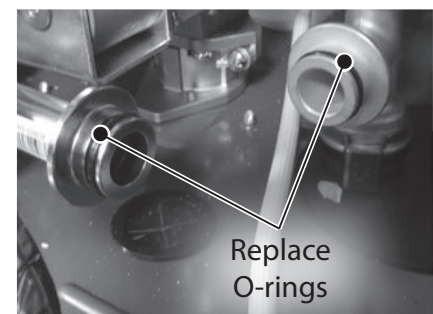

Figure 213 - Replace exposed O-rings
- 24** Locate the two (2) O-rings on the exposed water pipe connections as shown in Figure 213 and remove them. Dispose of O-rings properly.